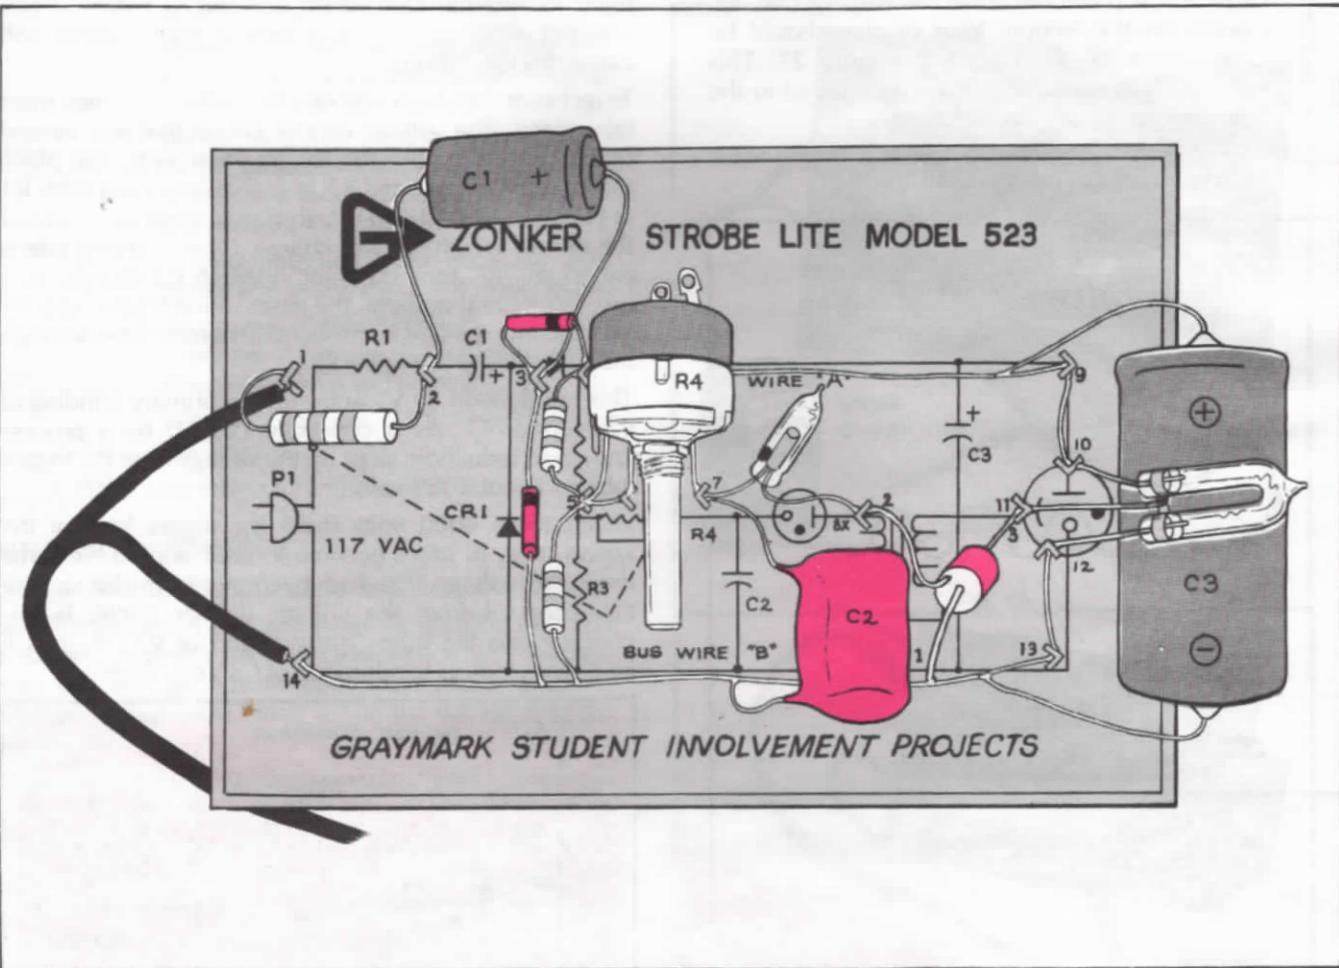

FIG. 29
1. Separate six remaining pins from the soldering pin strips. Push a soldering pin into the breadboard panel at each of the remaining X marks on the schematic. (Refer to Figure 29.)
2. Cut a 4-inch length of bus wire. This will form bus wire A. Connect this bus wire to pins 4, 9, and 10 as shown in Figure 29.
9. Connect and solder the positive (+) lead (lead nearest to "+") of the DC storage capacitor C3, Connect and solder the other lead (-) to bus wire B. (Refer to Figure 29.) This capacitor stores a high potential charge across the xenon tube. When V2 is triggered, C3 discharges into the tube because a tremendous amount of energy is required the instant the tube's ionization takes place.
10. This completes construction of your Zonker breadboard circuit. Check all soldered connections, component placement, and wiring and compare your breadboard to the illustration in Figure 29.